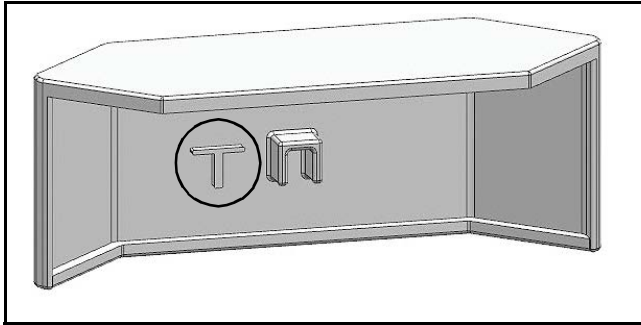

Fig. 39
1. Identify Letter code on each corner cap. (See Fig. 39.)